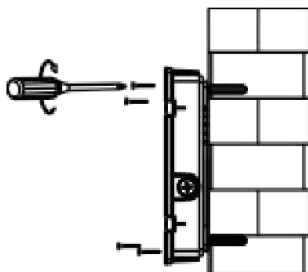

Fig. 15
8. Secure the fixture to the wall by inserting screws through the mounting holes, into the expansion wall plugs. (Fig.15)